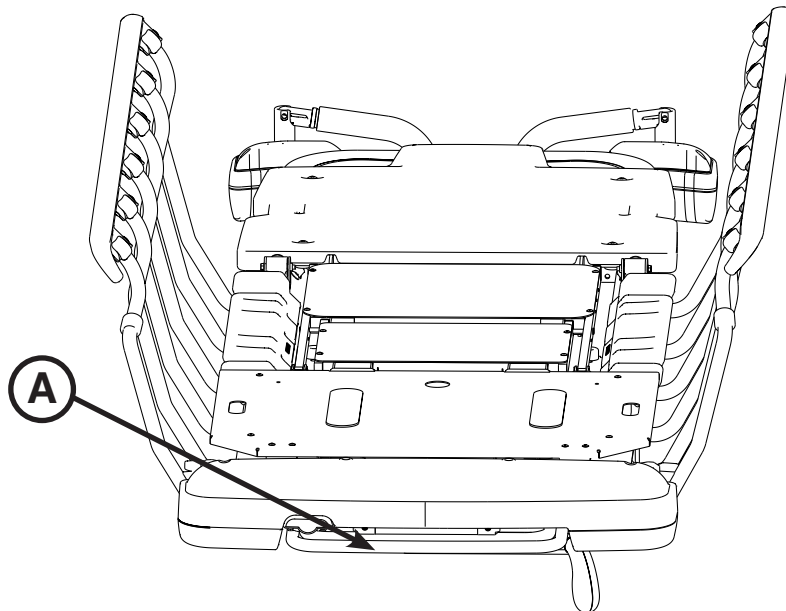

Figure 31: Pump Rack
The pump rack (A) can be used for the storage and transportation of stretcher equipment (Figure 31).